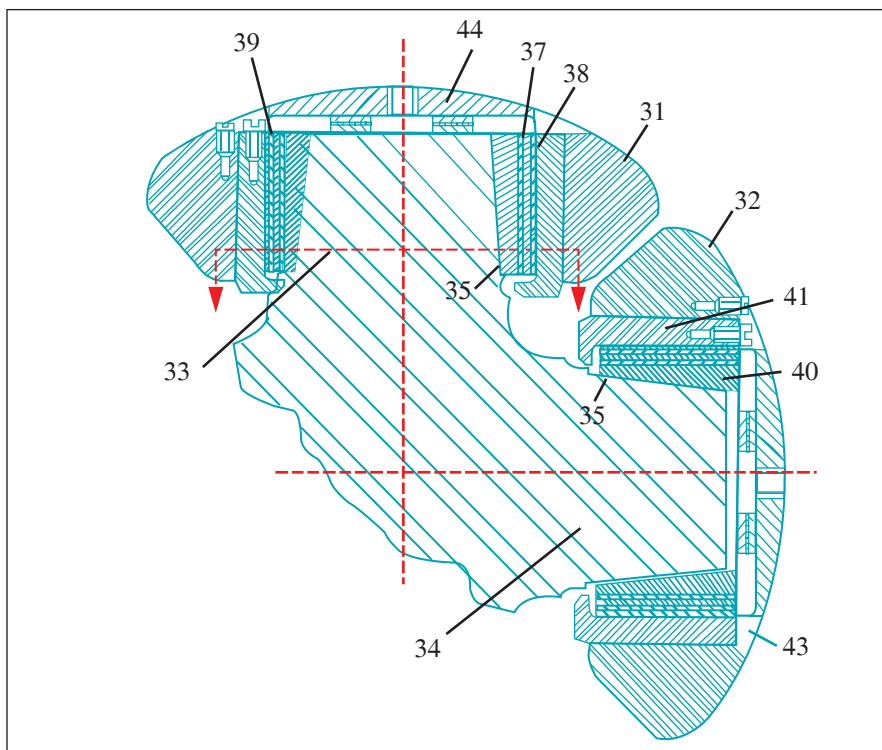

Figure 7—A large u-joint with thin-layered, rubber-metal bearings.
A typical embodiment of the u-joint with thin-layered rubber-metal bearings (Ref. 3) is illustrated in Figure 7 for a large-size joint. Figure 7 shows two basic units (out of four constituting the universal joint): yoke-trunnion-elastomeric bearing sleeve (parts 31, 33 and 35 respectively) and yoke-trunnion-elastomeric bearing sleeve (parts 32, 34 and 35, respectively). Sleeves (35) comprise rubber-metal laminates
(37) having sleeve-like rubber layers (38). Separating them and bonded to them are sleeve-like thin, reinforcing, intermediate metal layers (39) and inner (40) and outer (41) sleeve-like material layers bonded to the extreme inner and outer sleeve-like rubber layers. The inner and outer metal layers of the laminated bearing sleeve are made thicker than the intermediate metal layers, since they determine the overall shape of elastomeric bearing sleeves.
A comparison of Equations 7 and 14 with Equations 12 and 13, respectively, shows that while efficiencies of conventional Oldham couplings and u-joints for a given e , α are constant, efficiency of the modified designs using rubber-metal laminated connections increases with increasing load (when the energy losses are of the greatest importance). The losses in an elastic Oldham coupling and u-joint at the rated torque can be 1–2 decimal orders of magnitude lower than the losses for conventional units. Due to high allowable compression loads on the laminate (in this case, high radial loads), the elastic Oldham couplings and u-joints can be made smaller than the conventional units with sliding or rolling friction bearings for a given rated torque. The laminates are preloaded to eliminate backlash, to enhance uniformity of stress distribution along the load-transmitting areas of the connections, and to increase torsional stiffness. Since there is no actual sliding between the contacting surfaces, the expensive surface preparation necessary in conventional Oldham couplings and u-joints (heat treatment, high-finish machining, etc.) is not required. The modified Oldham coupling in Figure 6 and the u-joint in Figure 7 can transmit very high torques while effectively compensating large radial and angular misalignments, respectively, and having no backlash since their laminated flexible elements are preloaded. However, for small-rated torques, there are very effective and inexpensive alternatives to these designs whose kinematics are similar. These alternatives are also backlash-free.